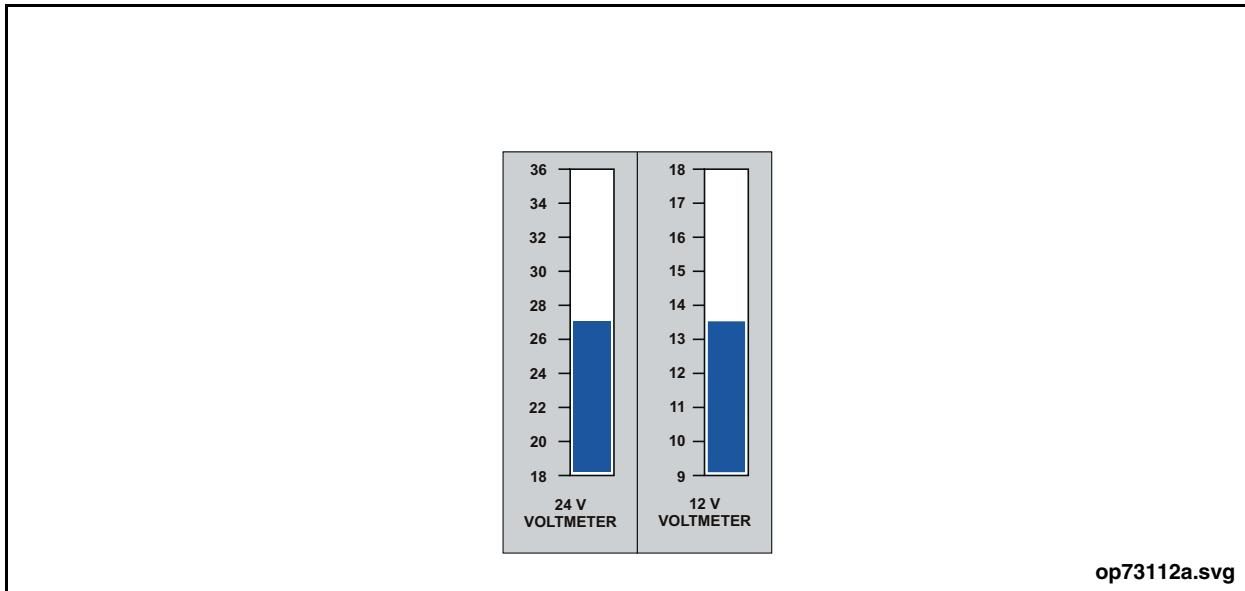

Fig. 19-5: Function Readout Display
- Voltmeter (12V) - the voltmeter indicates the voltage levels in the vehicle's 12 volt electrical system. The normal operating range is between 11 and 14 volts. See "Fig. 19-5: Function Readout Display" on page 8.